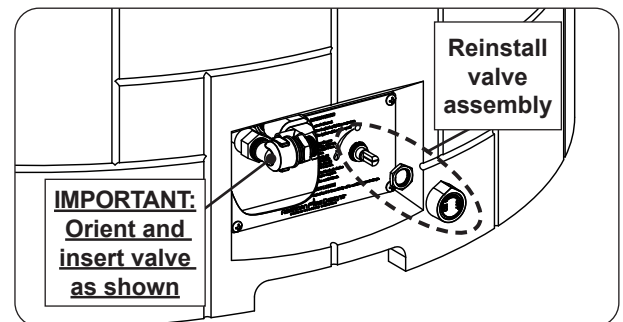

Fig. 33-4 Reinstall valve assembly
1. Insert the valve assembly through the plate (in the base). Replace the nut onto the valve stem, and tighten. Reinstall the control knob. See Fig. 33-4.
Important: Handle with care to prevent damage to the thermocouple and gas connections. Ensure the valve is oriented and inserted in the manner shown. See Fig. 33-4.